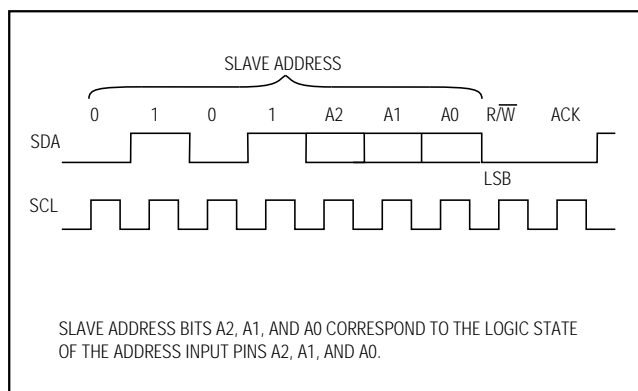
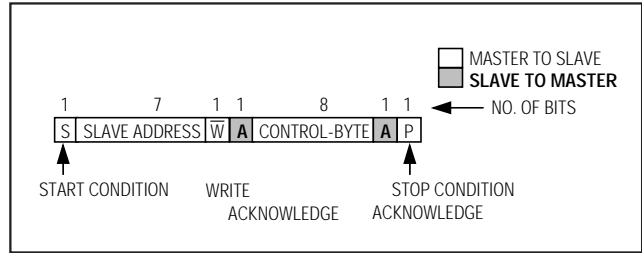
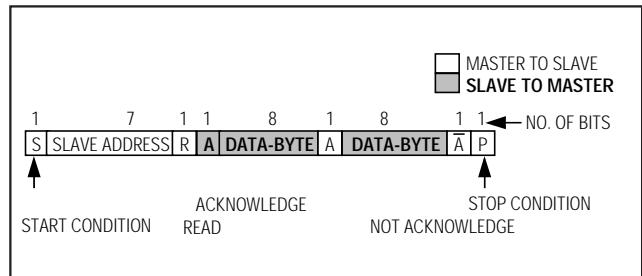
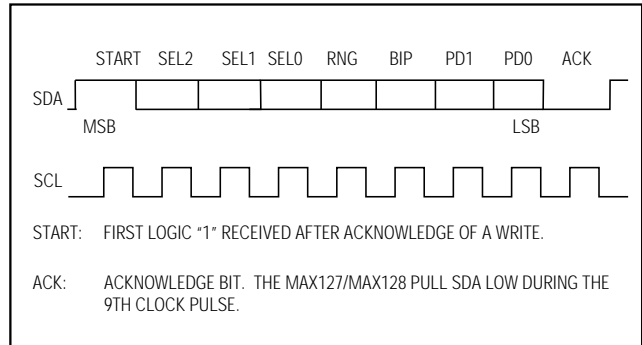

Figure 3. Address Byte
Figure 6. Write Cycle
Figure 7. Read Cycle
Figure 8. Command Byte
The MAX127/MAX128 have a 7-bit-long slave address. The first four bits (MSBs) of the slave address have been factory programmed and are always 0101. The logic state of the address input pins (A2–A0) determine the three LSBs of the device address (Figure 3). A maximum of eight MAX127/MAX128 devices can therefore be connected on the same bus at one time.
A conversion cycle begins with the master issuing a START condition followed by seven address bits (Figure 3) and a write bit ($R/\bar{W} = 0$). Once the eighth bit has been received and the address matches, the MAX127/MAX128 (the slave) issues an acknowledge by pulling SDA low for one clock cycle ($A = 0$). The master then writes the input control byte to the slave (Figure 8). After this byte of data, the slave issues another acknowledge, pulling SDA low for one clock cycle. The master ends the write cycle by issuing a STOP condition (Figure 6).
Once a conversion starts, the master does not need to wait for the conversion to end before attempting to read the data from the slave. Data access begins with the master issuing a START condition followed by a 7-bit address (Figure 3) and a read bit ($R/\bar{W} = 1$). Once the eighth bit has been received and the address matches, the slave issues an acknowledge by pulling low on SDA for one clock cycle ($A = 0$) followed by the first byte of serial data (D11–D4, MSB first). After the first byte has been issued by the slave, it releases the bus for the master to issue an acknowledge ($A = 0$). After receiving the acknowledge, the slave issues the second byte (D3–D0 and four zeros) followed by a NOT acknowledge ($\bar{A} = 1$) from the master to indicate that the last data byte has been received. Finally, the master issues a STOP condition (P), ending the read cycle (Figure 7).